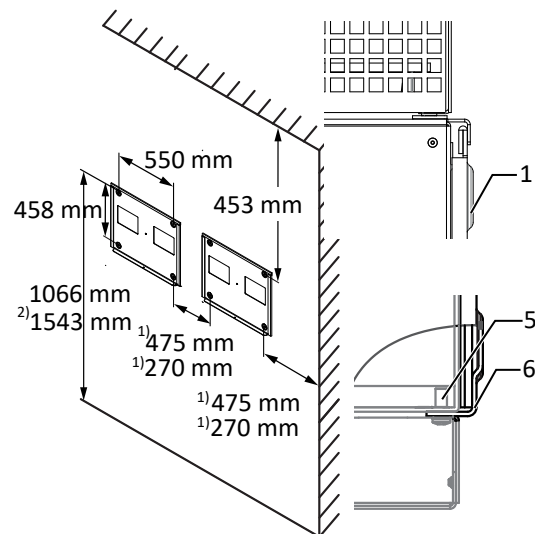

Fig. 17: Wall mounting
- Minimum clearances to be observed during installation: [See figure 17 ► Page 21]
2. Fit the device onto the upper mount by means of the mounting bracket. Fit the device onto the lower mounting bracket in full so that the device sits flush with its rear side on the mount ([See figure 17 [► Page 21]]).